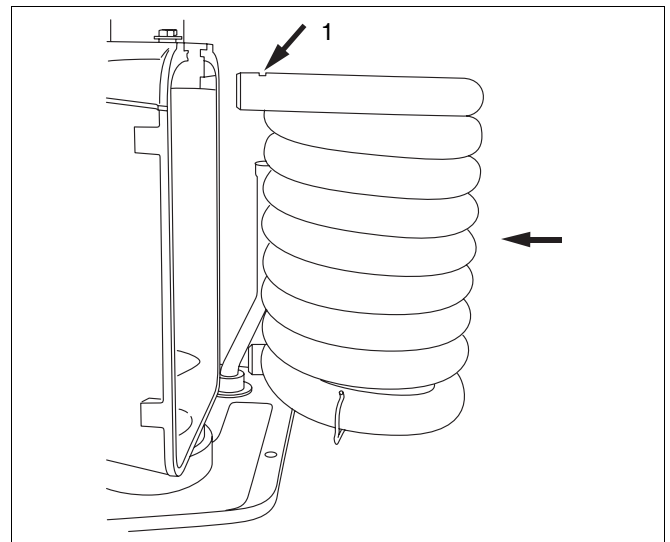

Fig. 46 Refitting the heat exchanger
**Refitting** (fig. 46) :
- Check to ensure that the heat exchanger has been fitted the right way round. The upper securing-pin groove must be horizontal (fig. 46, item 1).